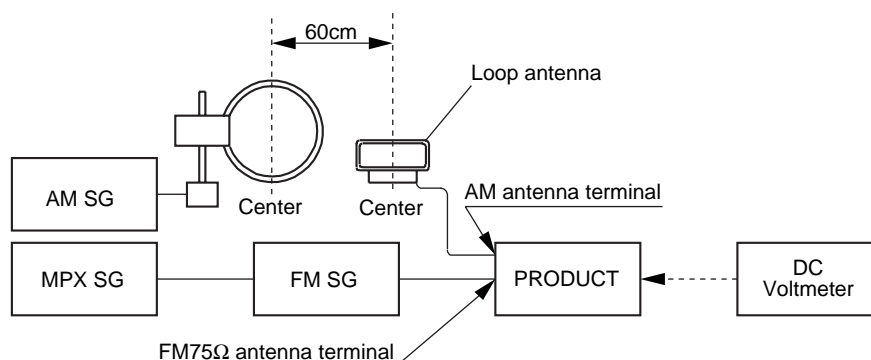

Fig. 6-2 AM and FM Adjustment Wiring Diagram
- Connect the wiring as shown in Fig. 6-2.